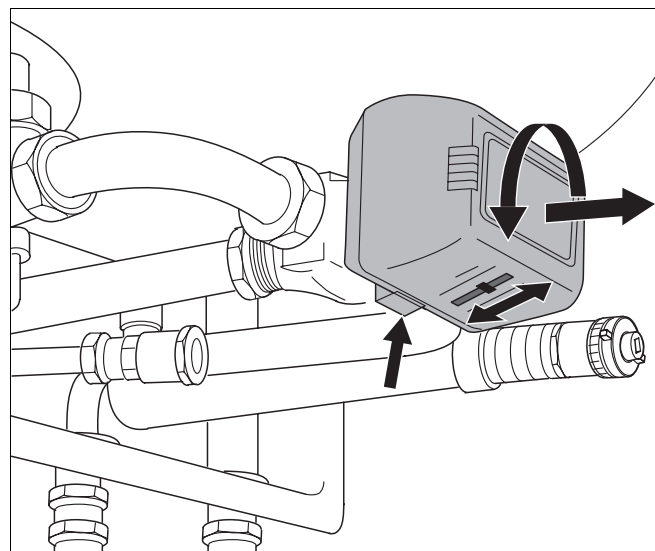

fig. 83 Checking the three-way valve for correct activation
- Push in catch on regulating motor and remove bayonet connector by twisting anticlockwise (fig. 83).